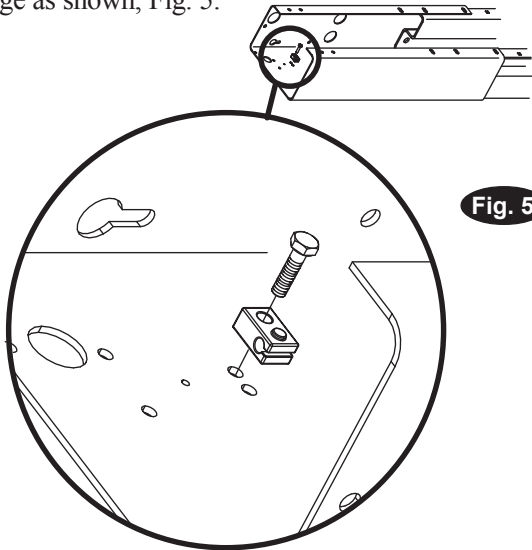

Fig. 5
2. Latch Cable Guides: Install the latch cable conduit guide brackets to column extensions with (1) 1/4"-20NC x 1" HHCS and 1/4"-20NC Flanged Locknuts, Fig. 5. HHCS should go through hole nearest the edge as shown, Fig. 5.
Overhead Mounting Bracket: Install Mounting Brackets to column extensions as shown, Fig. 5